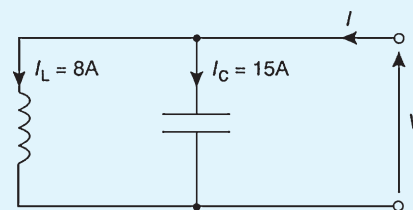

Figure 16.24
14. In the circuit shown in Fig. 16.24, the magnitude of the supply current  $I$  is: